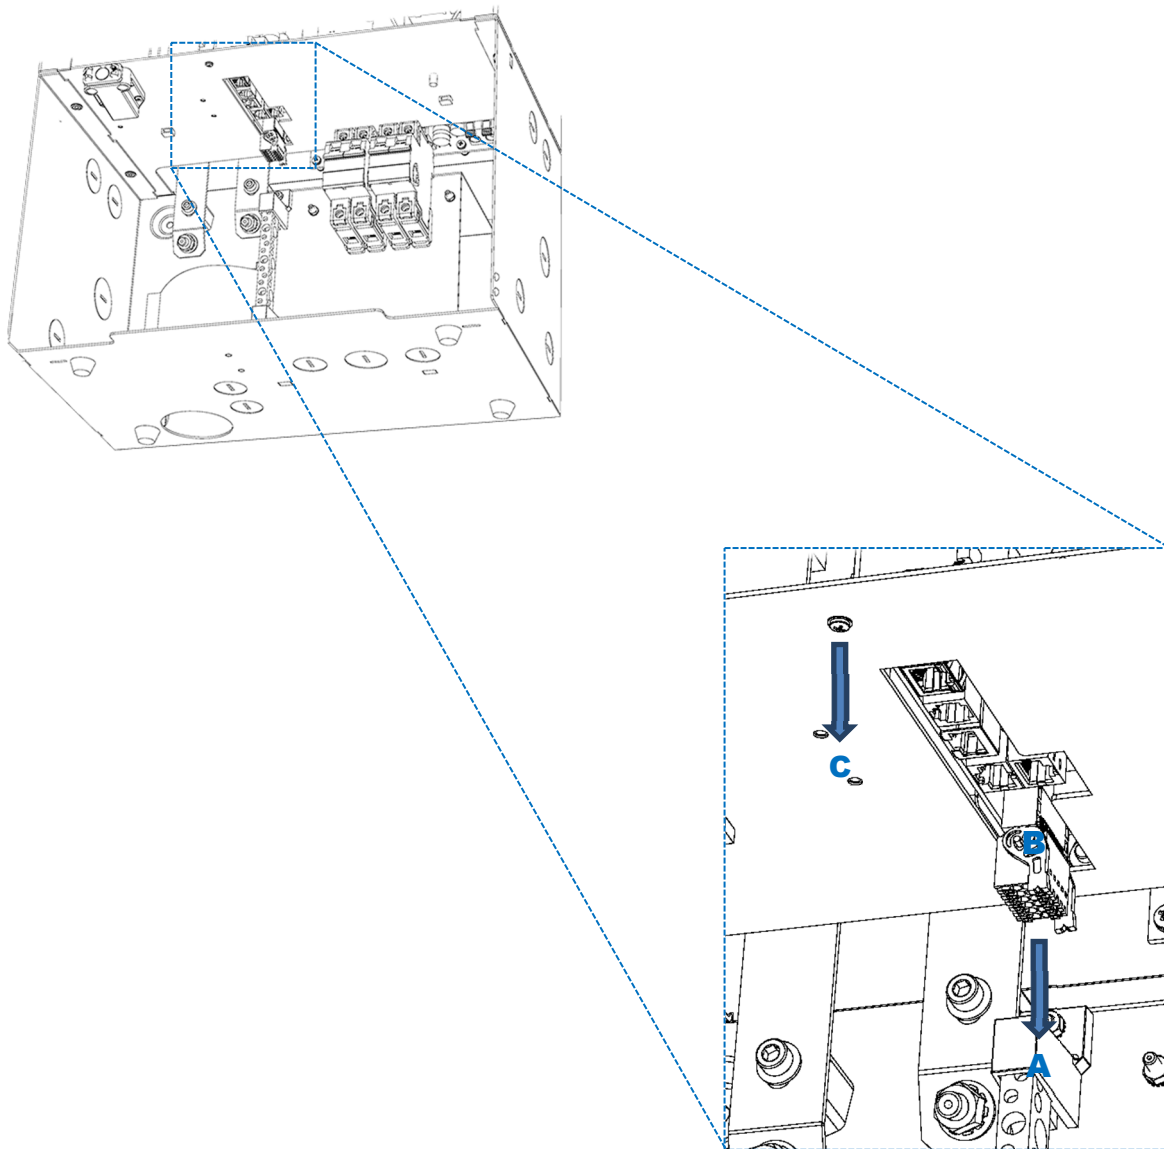

Figure 36 Control Board External Attachments
1. Remove the **Aux** terminal block from its socket. See **A** in Figure 36. Use the black levers **B** on the sides of the block to help remove it.
2. Using a #1 Phillips screwdriver, remove the securing screw for the control board. See **C** in Figure 36.
- Replace the securing screw **C**. See Figure 36 if necessary.
- Replace the **Aux** terminal block **A**. See Figure 36 if necessary.